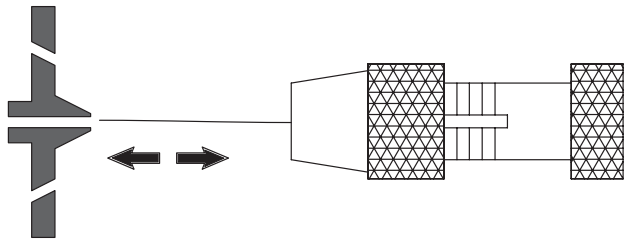

Figure 5 Correct direction to insert a pin-type probe into a nozzle (CF nozzle disk shown)
- See Figure 5. If cleaning of the adhesive nozzle orifices is necessary, use a pin-type probe that is one size smaller than the orifice size: insert the probe in the direction opposite the adhesive flow and then remove the probe without twisting it.